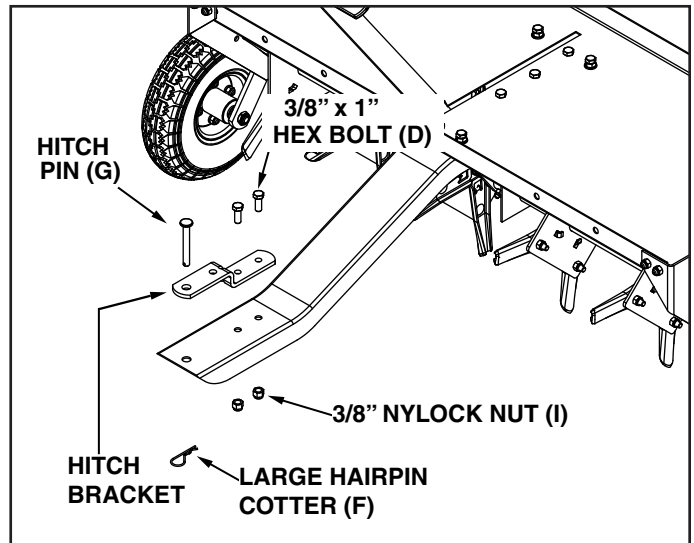

FIGURE 10
- Assemble the hitch bracket to the tongue using two 3/8" x 1" hex bolts (D), and two 3/8" nylock nuts (I). Tighten. See figure 10.
- Assemble the hitch pin (G) through the hitch bracket and the tongue. Secure the hitch pin with the large hairpin cotter (F). See figure 10.